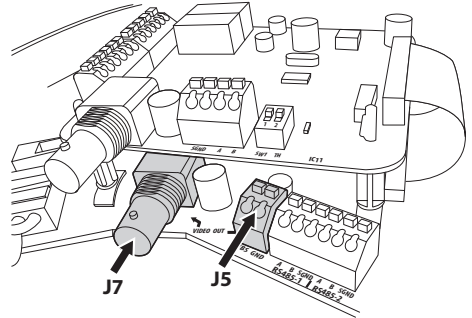

Fig. 13
- **Main Video:** The main video output (connectors J5-J7, Fig. 13, page 15) is used to transmit the video signal of the integrated module.
- **Main Video:** In all models fitted with thermal camera only, the main video output (connectors J5-J7, Fig. 13, page 15) is used for the transmission of the thermal camera video signal.